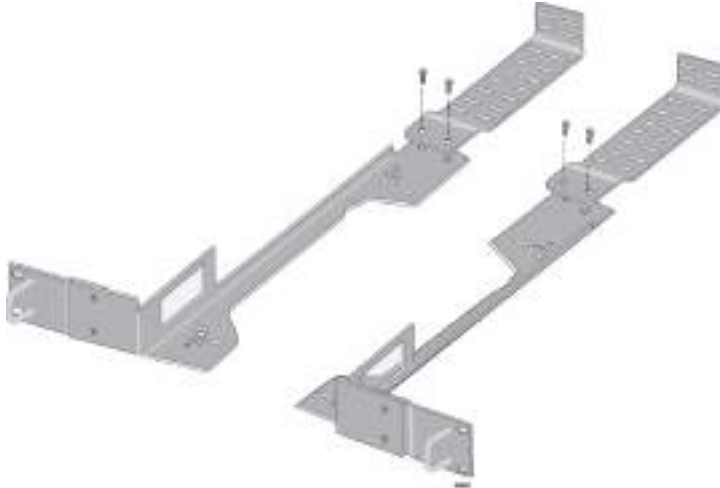

Figure 26. Attaching Cable Tray to Plates
5. Attach the cable bracket to the unit that you assembled in Step 4 with M4x6mm screws using a Phillip-head screw driver as shown in Figure 26.